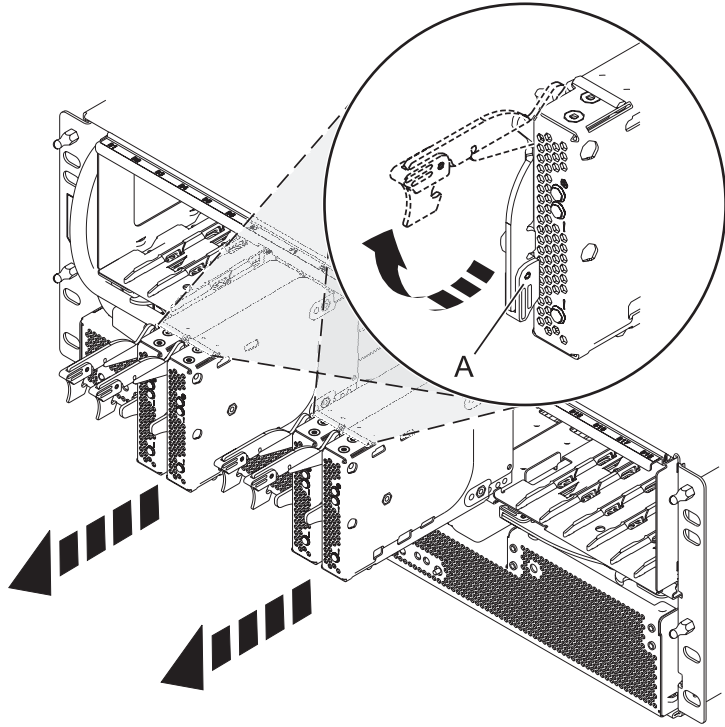

Figure 74. Removing the port card from the backplane
5. Remove the port cards and fillers as shown in Figure 74 on page 93.
- a. Hold the end of the latching handle (A) and pull it upward to unlock the port card.